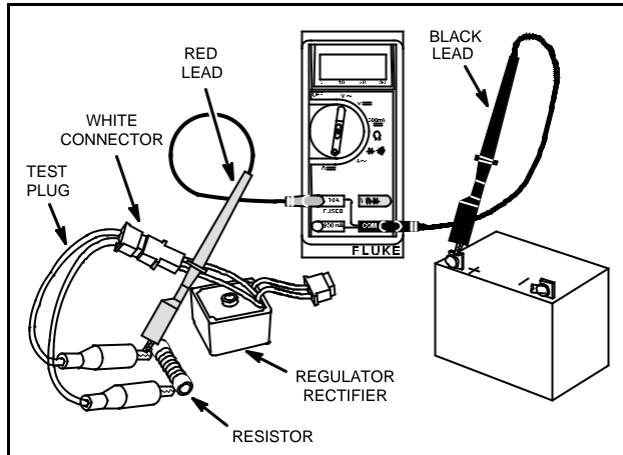

Fig. 774 – TESTING LIGHTING CIRCUIT
4. Connect test harness to output connector and attach alligator clips to 1 ohm 20 watt resistor as shown in Fig. 774.